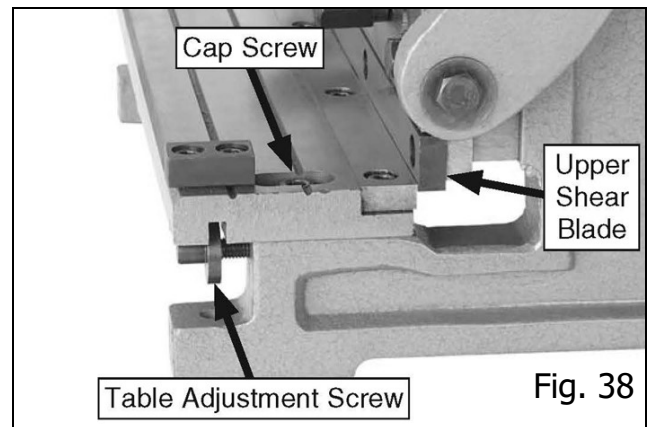

Fig. 38
2. Move the table back until the upper shear blade can pass down behind the table blade by loosening the two cap screws securing the shear table to the frame and rotating the table adjustment screws counterclockwise (see Figure 38).